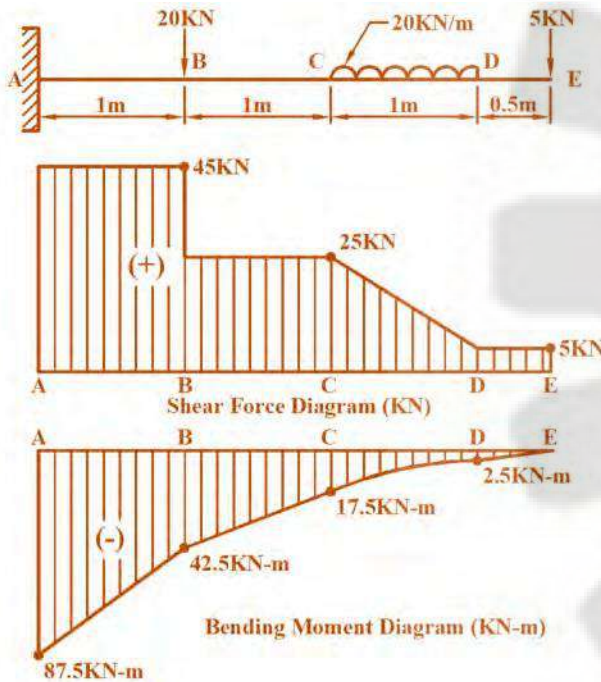

Fig.P9.6 SF and BM diagram [Example 9.6]
**Draw the shear force and bending moment diagrams for the loaded beam shown in the fig.P9.6**